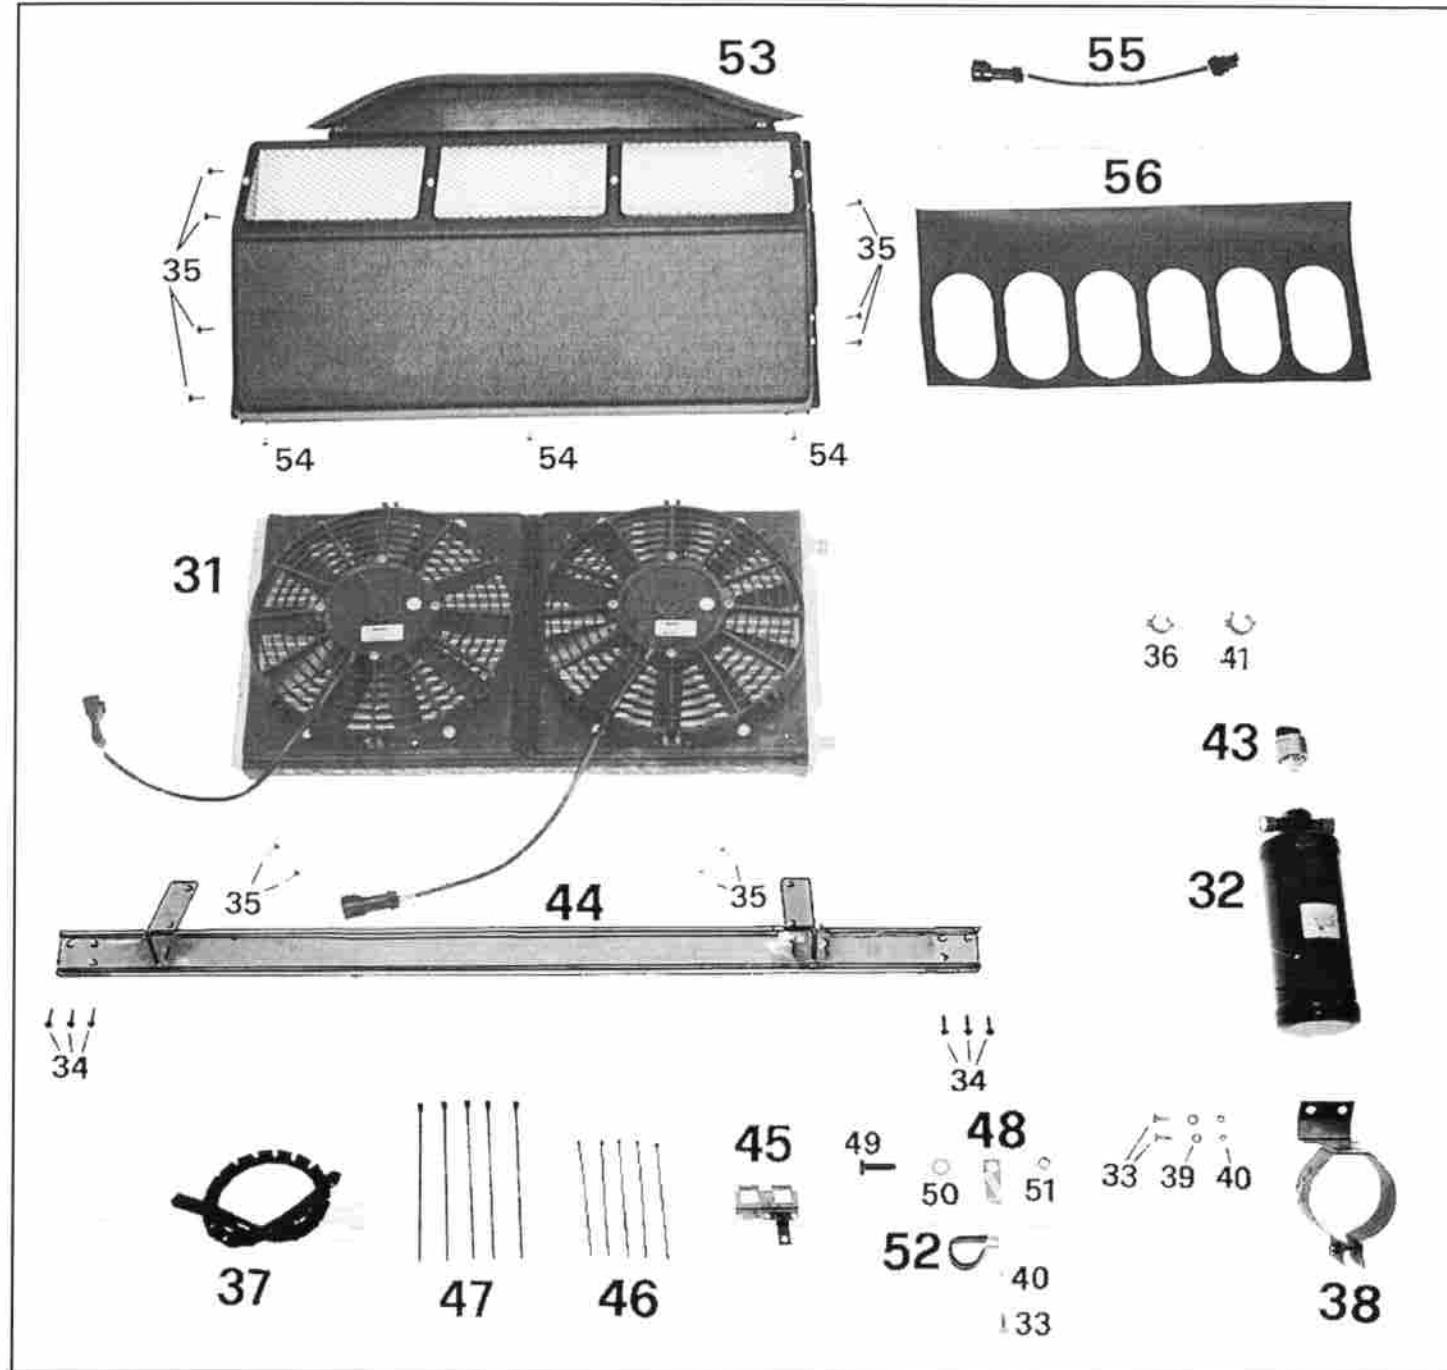

FIG. 2
**ELENCO MATERIALE FORNITO (FIG. 2)**
**LISTE DU MATERIEL FOURNI (FIG. 2) / LIST OF SUPPLIED MATERIALS (FIG. 2)**
**VERZEICHNIS DES GELIEFERTEN MATERIALS (ABB. 2) / LISTA MATERIAL ABASTECIDO (FIG. 2)**